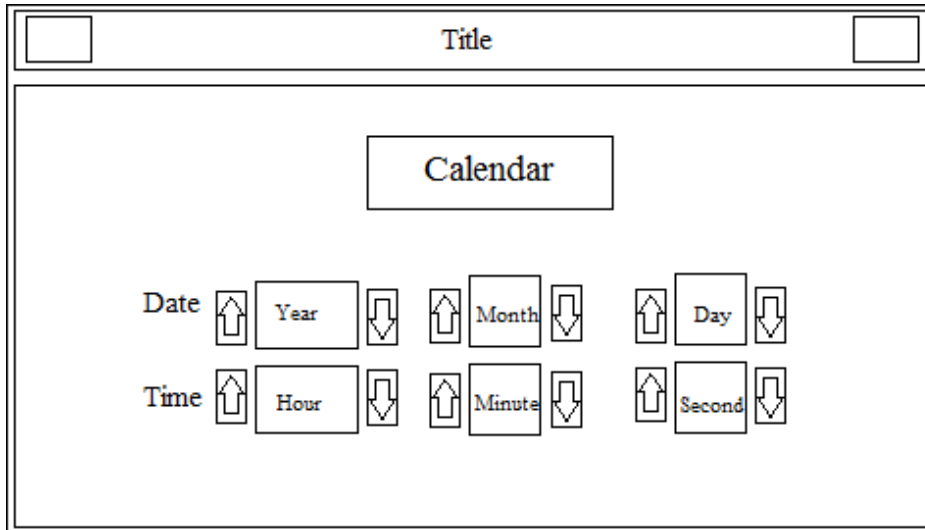

Figure 5: Date/Time page
- **Date/Time:** user can adjust date or time by moving to Date/Time. Date/Time page is depicted in Figure 5